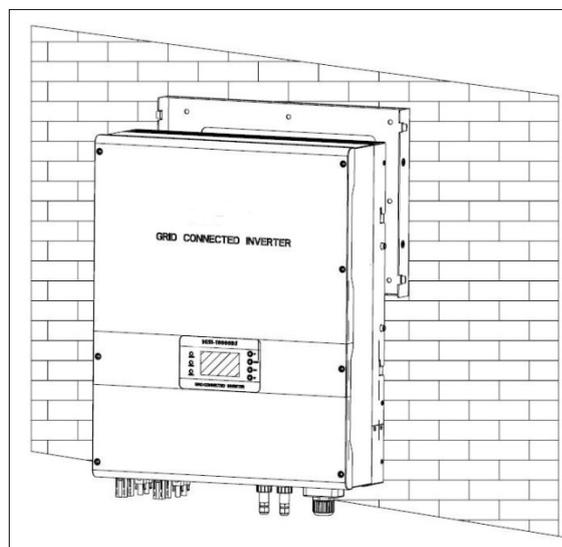

Fig.5 Hang inverter to mounting frame
Step2: Fix the mounting frame as illustrated in the Fig.5 by the screws, and then hang the inverter on the mounting frame.